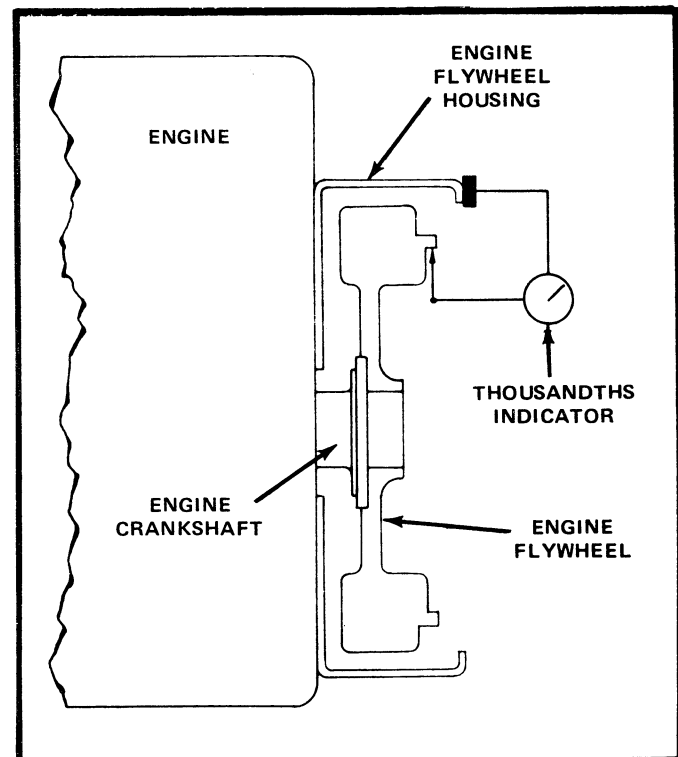
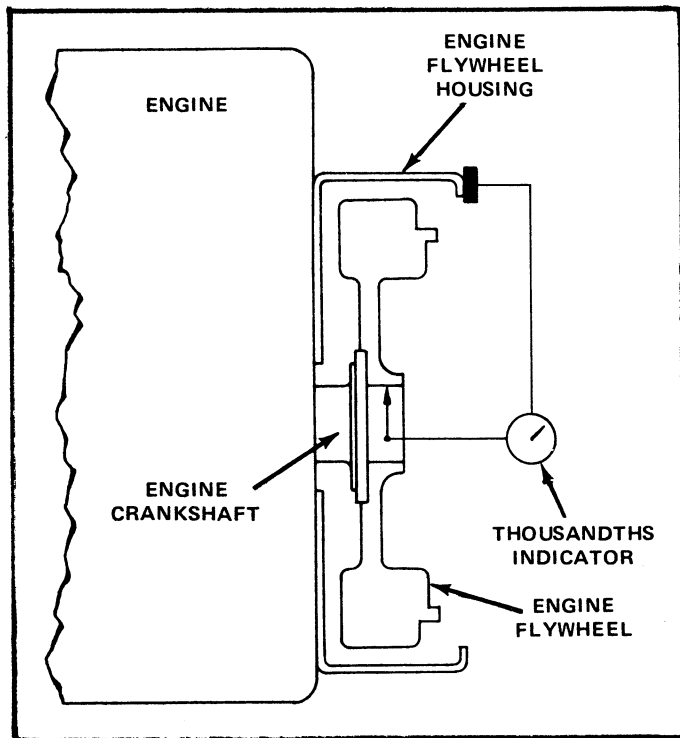

Figure 9-21. Checking the Driving Ring Pilot Bore of the Engine Flywheel.
Figure 9-22. Checking Pilot Bearing Bore of Flywheel.
6. With the indicator mounted as in the paragraph above, adjust the indicator stem so that it will ride on the driving ring pilot bore of the engine flywheel. See Figure 9-21. Rotate the
7. Readjust the indicator so that the stem will ride on the pilot bearing bore of the flywheel. See Figure 9-22. Rotate the flywheel. The eccentricity of the pilot bearing bore should not exceed 0.005 maximum total indicator reading. Eccentricity between the driving ring pilot bore (Figure 9-21) and pilot bearing bore (Figure 9-22) should not exceed 0.009 inch total indicator reading.